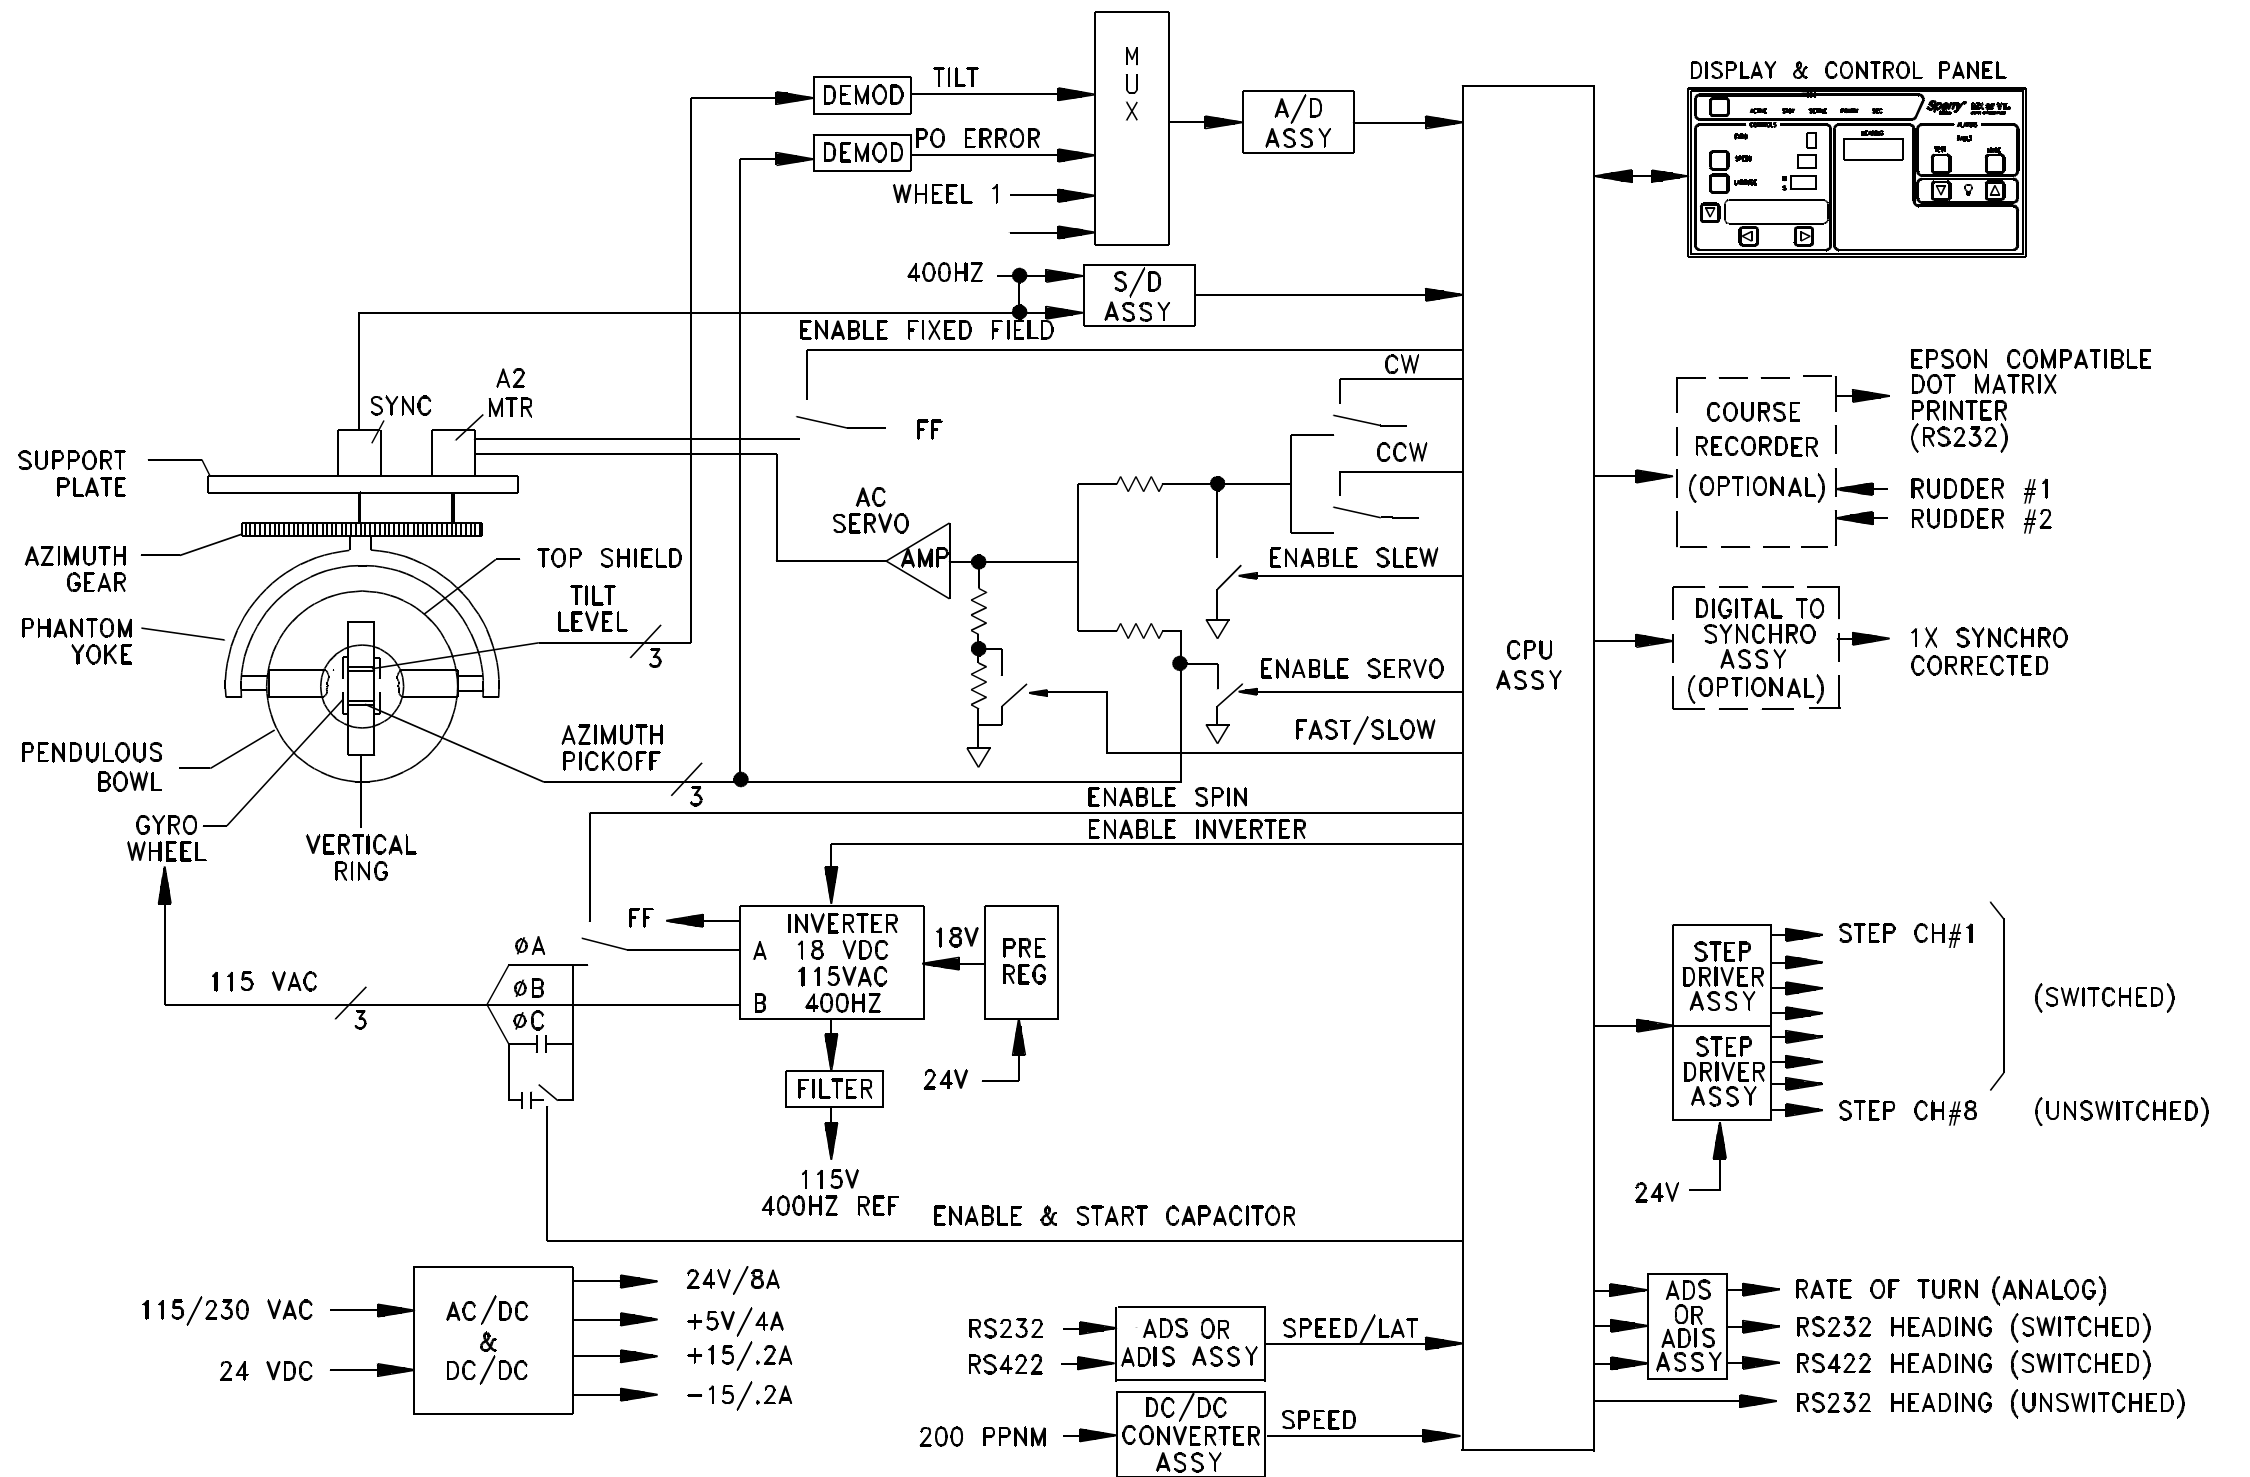

Figure 3-1. MK 37 VT Digital Gyrocompass Equipment Overall Block Diagram
**3-1.1 Overall Level.** Paragraph 3-2 provides an overall description of the gyrocompass system and Figure 3-1 is the gyrocompass system overall block diagram.
Figure 3-1 is a simplified block diagram of the MK 37 VT Digital Gyrocompass Equipment. This diagram shows the printed circuit board functions within the Electronics Control Unit and their connections to the equipment associated with the gyrocompass system. The MK 37 VT Digital Gyrocompass Equipment consists of the Master Compass, Electronics Control Unit, and Display Assembly which are described in the following paragraphs.